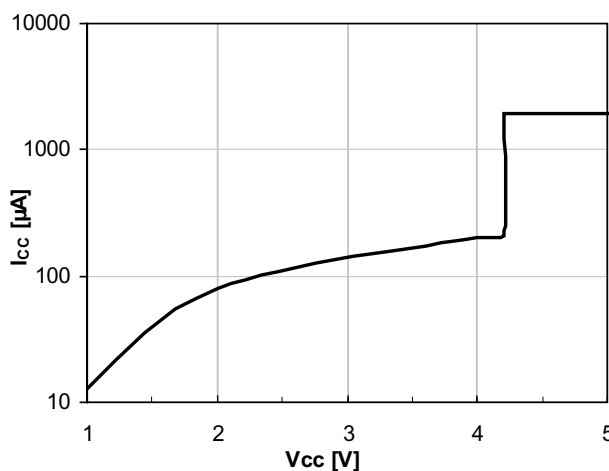

**Figure 4. Ground Current**
**Ground Current** is shown across the entire range of load conditions in Figure 4. The ground current of 2mA has minimal variation across the range of load conditions and shows only a slight increase at maximum load. This slight increase at rated load is due to the current limit protection circuitry becoming active.